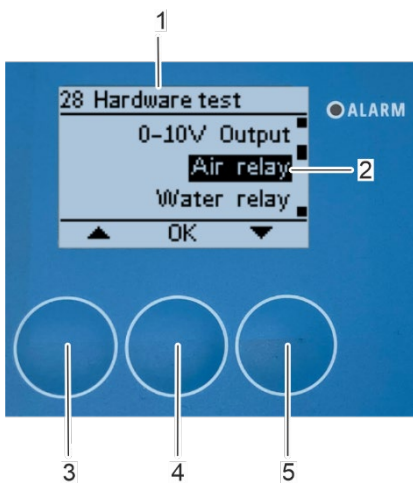

Fig. 147: Open submenu "air relay"
⇒ The "28 Hardware test" submenu (Fig. 147/1) appears on the display again, the air relay closes and compressed air flows out of the compressed air nozzle if the electrical and mechanical installation is correct.
5. After checking the compressed air relay, open the "Air relay" submenu (Fig. 147/2) again with [OK] (Fig. 147/4).